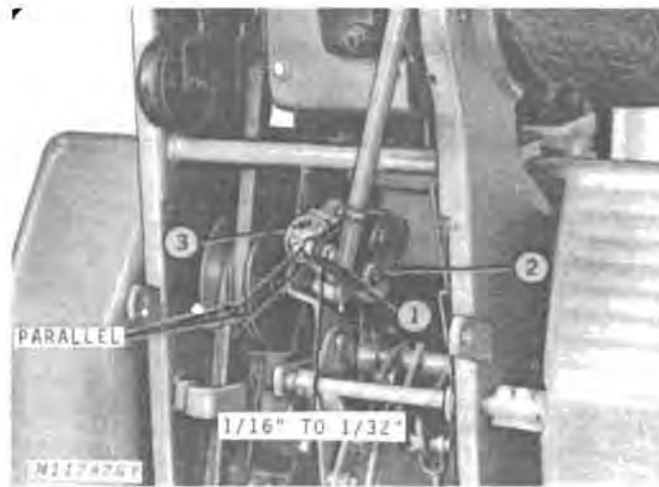

Fig. 16-Steering Gear Adjustment
To remove excessive backlash, Fig. 16, (loose steering) and to properly adjust steering gear, follow this procedure:
3. Loosen jam nut on cross bolt and tighten only the inside nut using a thin open end wrench until all end play (see arrow) is removed or until the distance between the lever arm and steering gear body is between 1/16 and 3/32 inch, Fig. 16. Tighten jam nut to 22 to 25 ft-lbs torque.